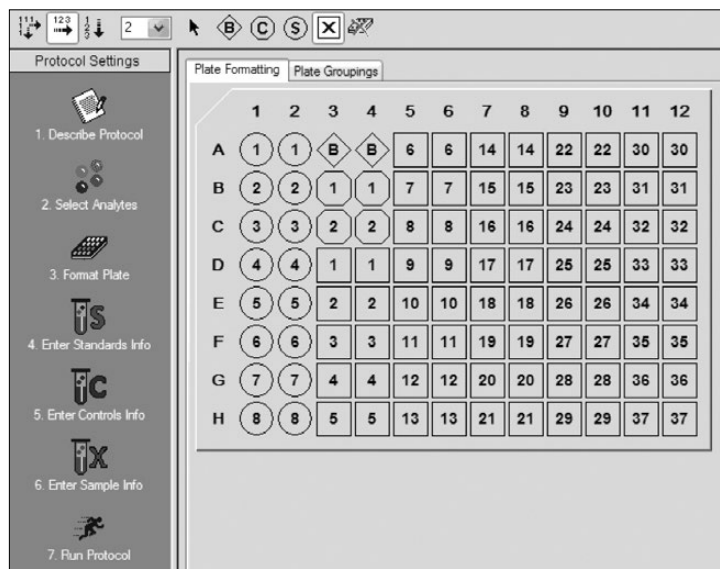

Fig. 4. Plate formatting.
3. Click **Format Plate** and format the plate according to the plate layout created in Section 1 (Plan Plate Layout). To modify the plate layout, follow the steps below (see Figure 4).